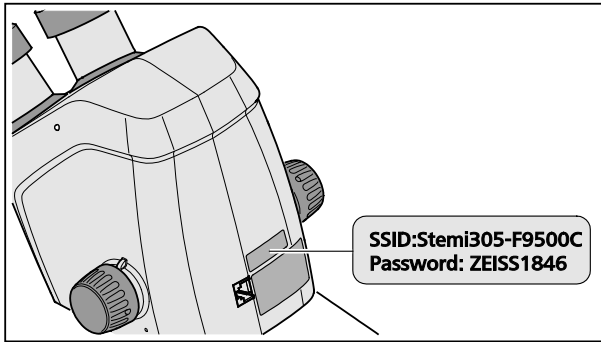

Fig. 7 Adhesive label on the back of the device
- The adhesive label on the back of the microscope body (Fig. 7) shows the WLAN identifier (SSID) set by the factory, and the WLAN password of the device. SSID and WLAN password can be changed subsequently via a WLAN configuration website.